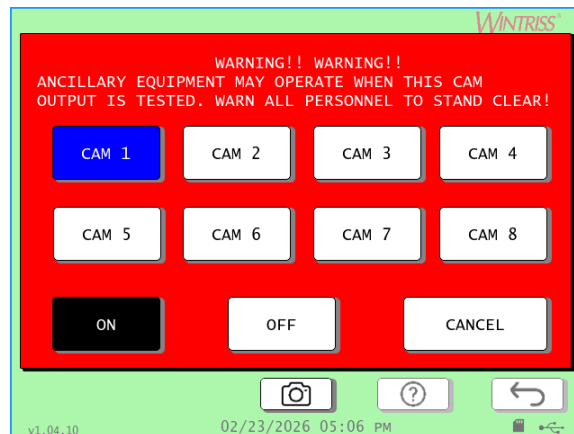

Figure 4-27. Cam Output Testing Screen During Testing of Cam 1
3. Press the ON and OFF buttons to turn the cam on and off. The button turns black when you press it. Observe the cam output and ensure it goes on and off as indicated. Figure 4-27 shows the Cam Output Testing screen during testing.